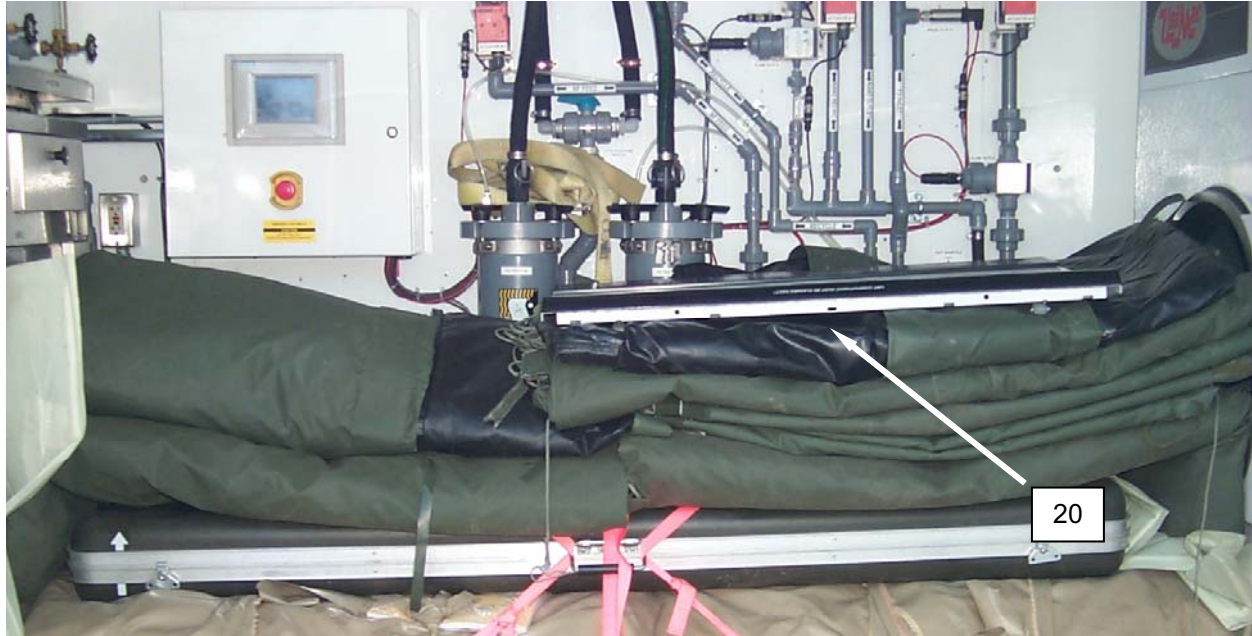

Figure 17. CBL Full Packout.
26. Place Dryer No. 1 lint compartment door (**Figure 17, Item 20**) on top of TEMPER fabric.
27. Place the vestibule fabric sections (**Figure 17, Item 21**) on top of dryer lint compartment door.